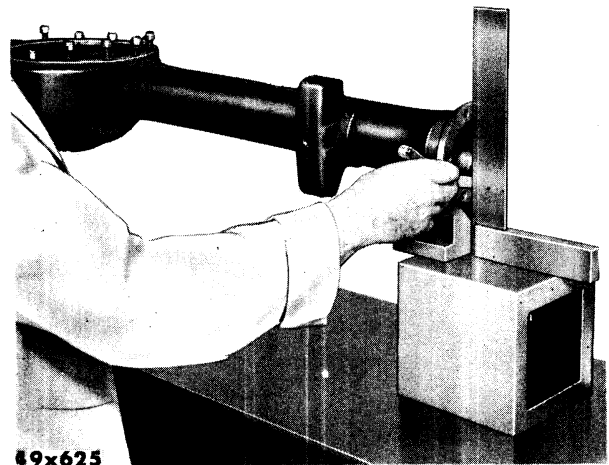

Fig. 50—Checking Horizontal Alignment
- (3) Place square against machined surface of housing end flange and surface plate, as shown in Figure 50. Amount of housing